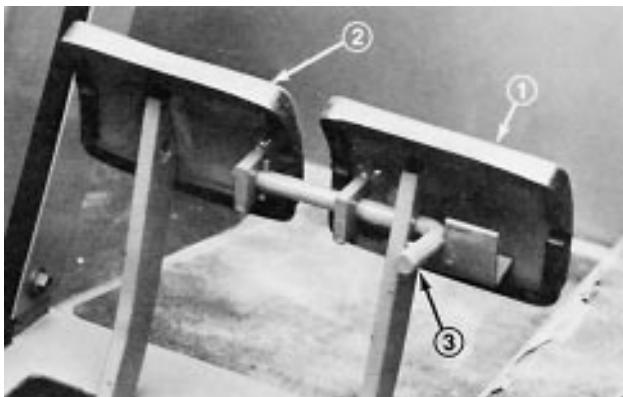

Figure 18
**Parking Brake** — Whenever the engine is shut off, the parking brake must be engaged to prevent accidental movement of the machine. To engage the parking brake, push lock arm (Fig. 18) on left brake pedal so that it locks together with the right pedal. Next, push down fully on both pedals and pull parking brake knob out (Fig. 17) then release the pedals. To release parking brake, depress both pedals until parking brake knob retracts. Before starting the engine, however,